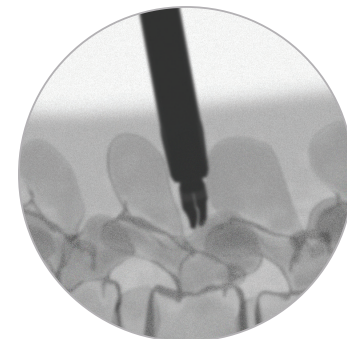

FIG. 11A. IMPLANT COMPLETELY CLOSED AND READY FOR REMOVAL
4. Rotate the Driver counter-clockwise until the Implant is closed (Fig. 11A). A positive stop will be felt when the implant is completely closed. Withdraw the inserter with attached Implant from the Cannula, and withdraw the Cannula.